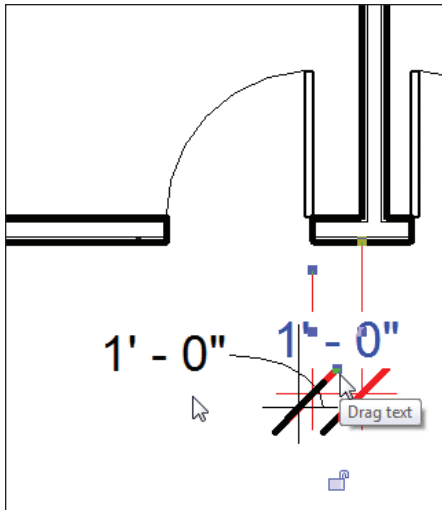

FIGURE 5.40 By grip-editing the text, you can slide it to a cleaner location. Revit will automatically place a leader for the text to the dimension line.
8. Notice there is a blue grip just underneath the text. Pick the grip and move the text out from between the extension lines, as shown in Figure 5.40. Notice Revit will place a leader (an arrow line extending from the model to your text) in the text.